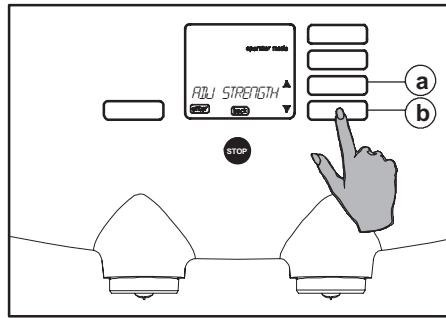

Fig. 72 Selection menu "SET STRENGTH"
3. Use the scroll buttons \updownarrow (fig. 72 a or b) until the option "ADJ STRENGTH" shows in the display.